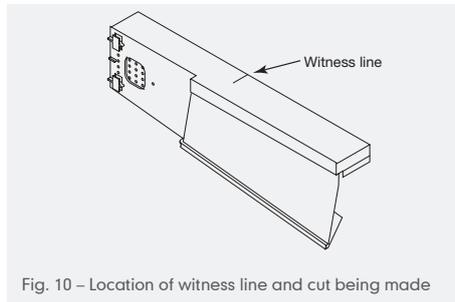

Fig. 10 – Location of witness line and cut being made
- 10 When using medium format tiles, verge unit distortion can occur when the units are slid into position beneath the next tile course above. This distortion can be eliminated by making a small cut (Fig. 10) along the witness line, as shown.